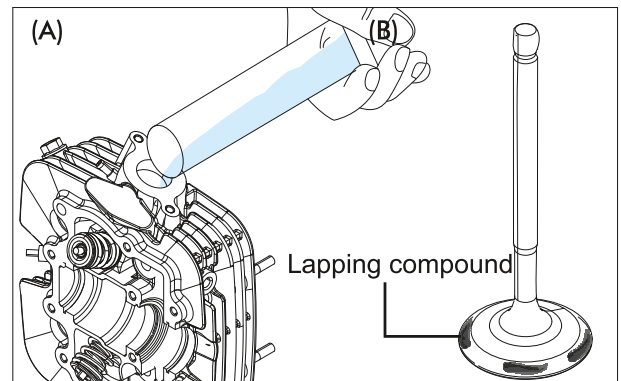

Fig. 3.150
- After assembling the valves pour the petrol into the inlet port and look for any leakage of petrol around the inlet valve seating. (Fig. 3.150)
- First apply the course valve lapping compound uniformly right round the valve face. (Fig. 3.150)